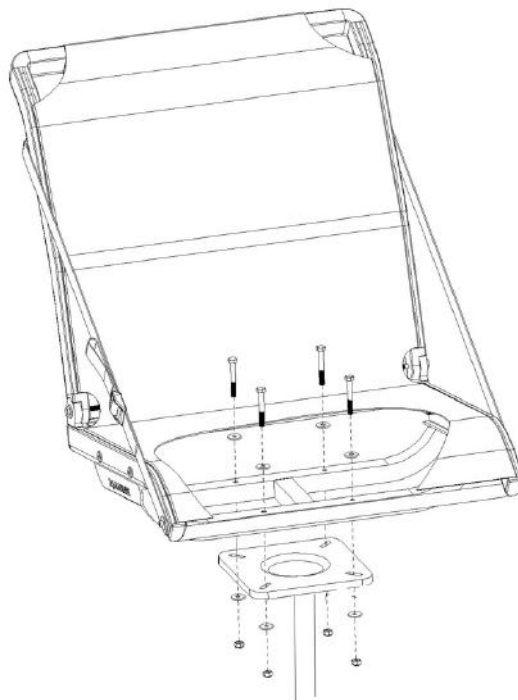

FIGURE 8
STEP 8. Next install the seats on the adjustable seat post. The seat post is a standard bolt pattern and will fit most boat seats but we feel the Millennium seats are best suited for this application, see FIGURE 8.